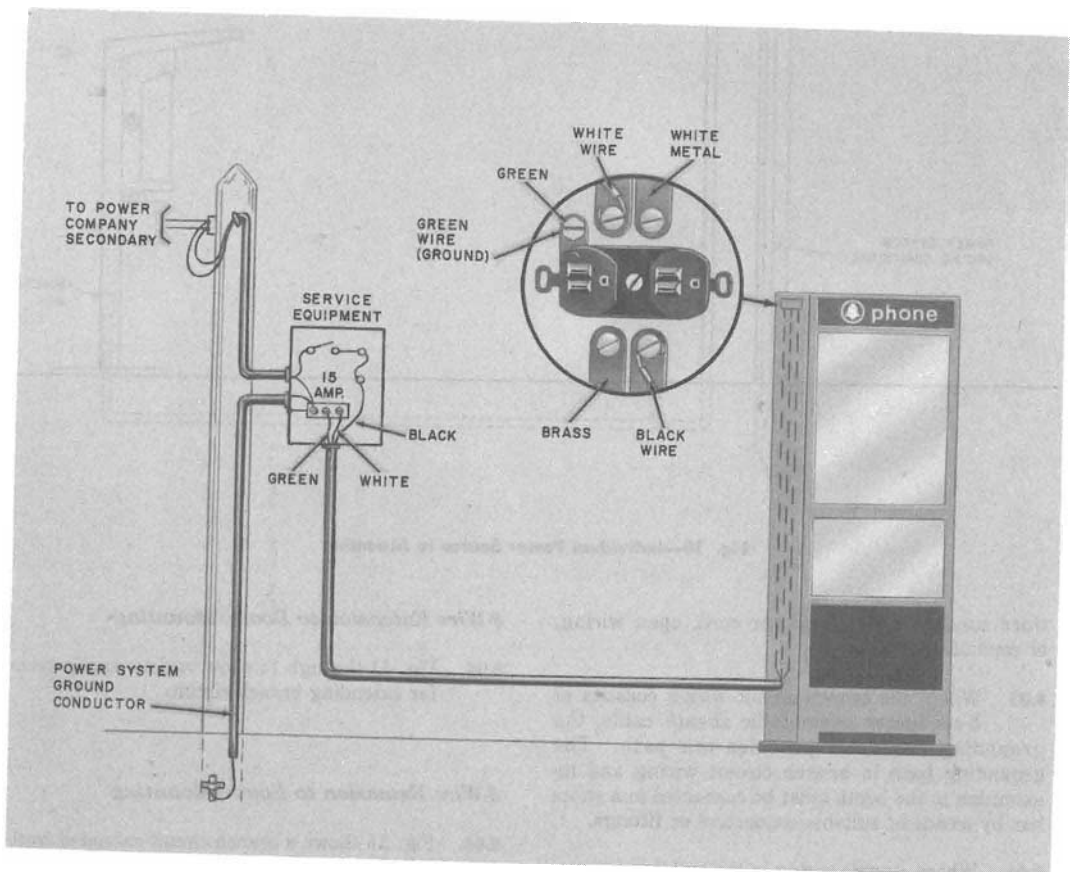

Fig. 9—Individual Power Source to Booth
**7.01** Refer to Fig. 9 and 10 for this type service. Similar installations may have the fuse and cutout switch mounted on an adjoining post or wall, on the booth/mounting, or on a service mast.